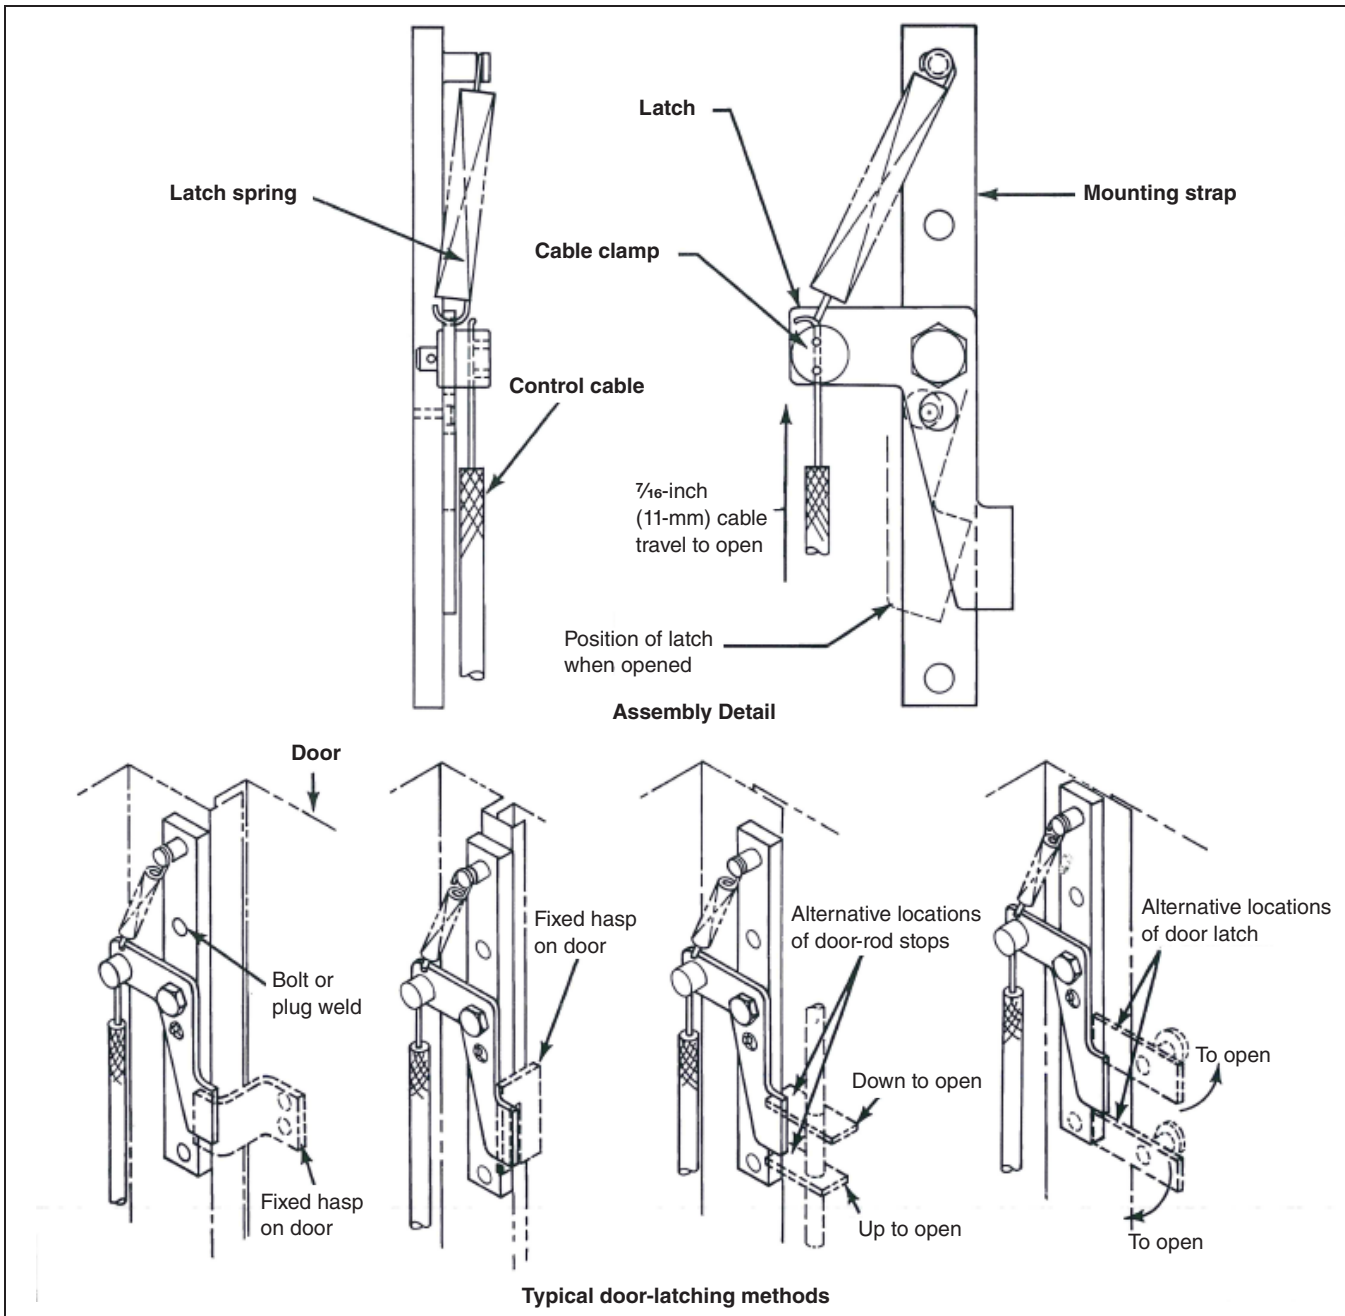

Figure 8. Mechanical interlock door latch.
- Bolt or weld the interlock latching assembly inside the enclosure. Position it so the interlock latch engages or blocks the door hasp (or door-opening mechanism). See Figure 8 on page 16.
so the interlock latch engages or blocks the door hasp (or door-opening mechanism). See Figure 8 on page 16.